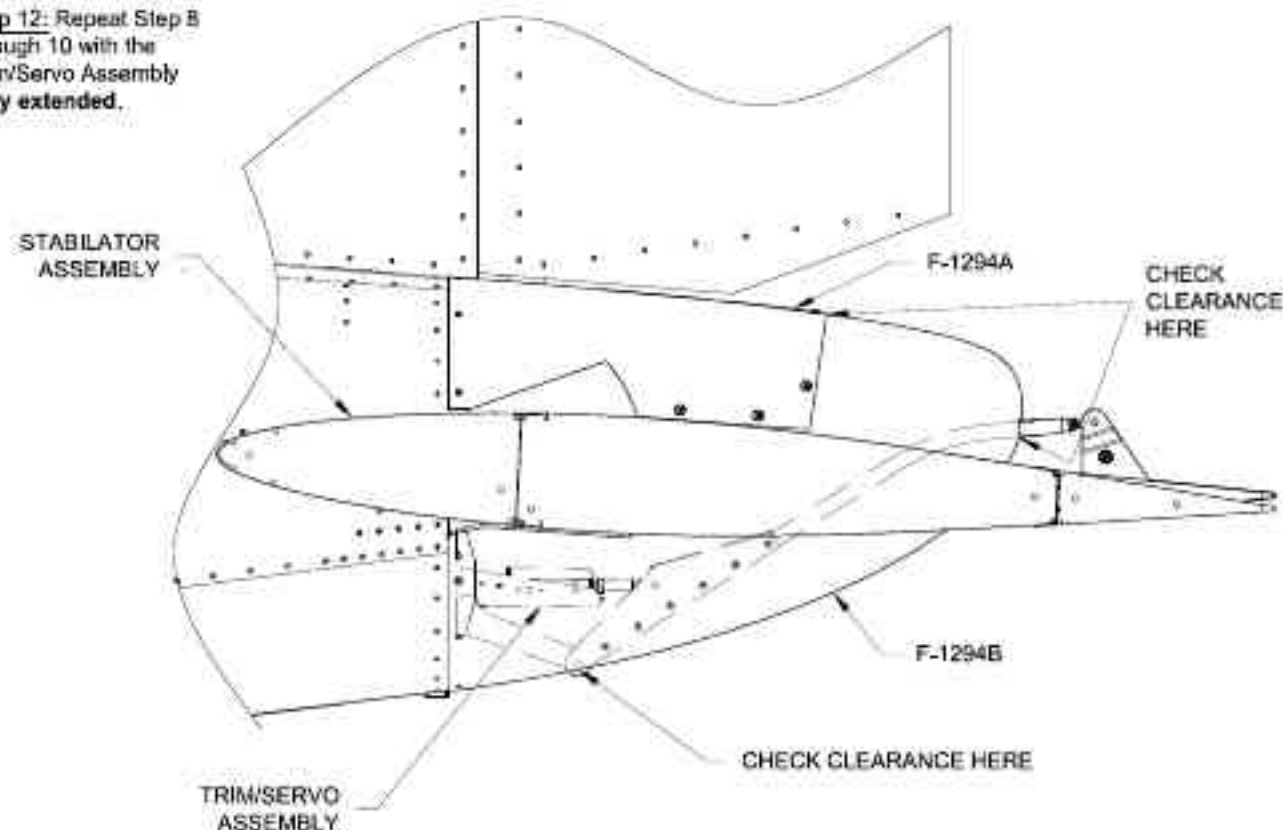

FIGURE 4:
Step 11: Check the clearance between the Trim/Servo Assembly and the F-1294 Assembly throughout the Stabilator Assembly travel as shown in Figure 4. If necessary, mark then trim the upper and lower tailcone fairings to provide at least 1/8 inch of clearance for the Trim/Servo Assembly.